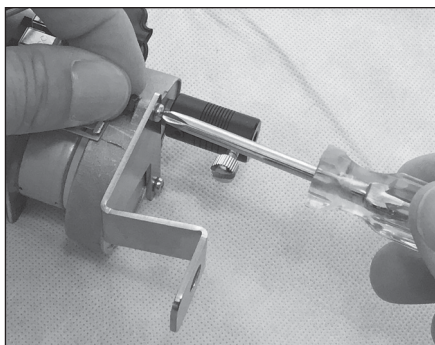

Figure 5. Install the new bracket for EQ-1B mount as shown using the two screws and nuts.
5. Insert one of the screws through the aligned holes from the bracket side and place the nut on the screw end. Then use the screwdriver to tighten the screw while holding the nut with your fingers (or the pliers or wrench) (**Figure 5**). Repeat with the other screw. The motor drive with attached bracket should look like **Figure 6**.